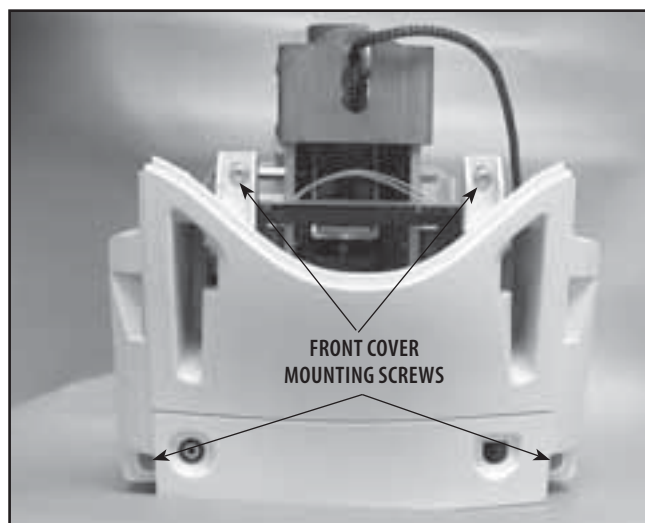

FIGURE 6.11
4. Using the 3/32 in Allen Wrench, remove the four Front Cover Mounting Screws. See Figure 6.11.
- b. Secure the Front Cover to the chassis with the four Front Cover Mounting Screws. See Figure 6.11.